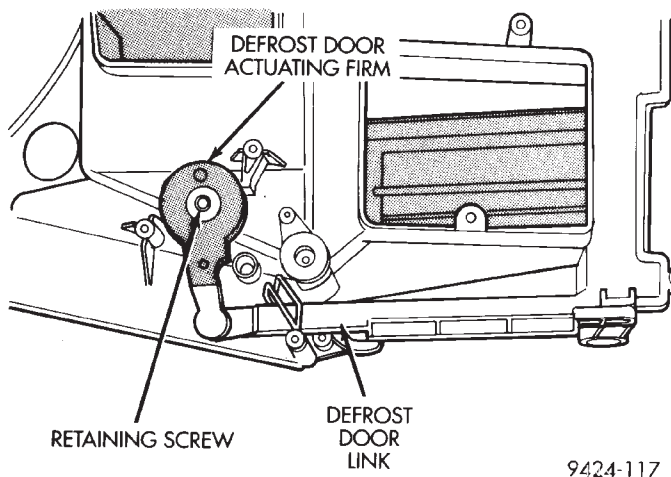

Fig. 79 Defrost Door Actuating Arm Screw
(23) Remove screw at defrost door actuating arm (Fig. 79). Remove defrost door link from arm.